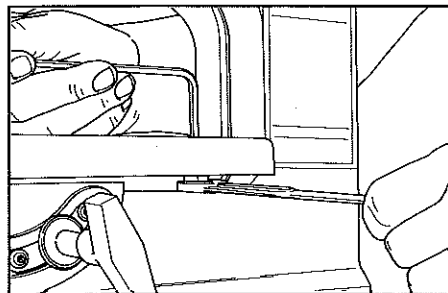

Figure 8. Set the 90° stop.
9. Set the 90° stop. With the table set at "0", use a 1/2" open-end wrench to loosen the table stop nut (45). Use a 5/32" Allen wrench to loosen or tighten setscrew (44) as required. (See Figure 8.) Screw should just make contact with frame (12). Tighten stop nut (45).